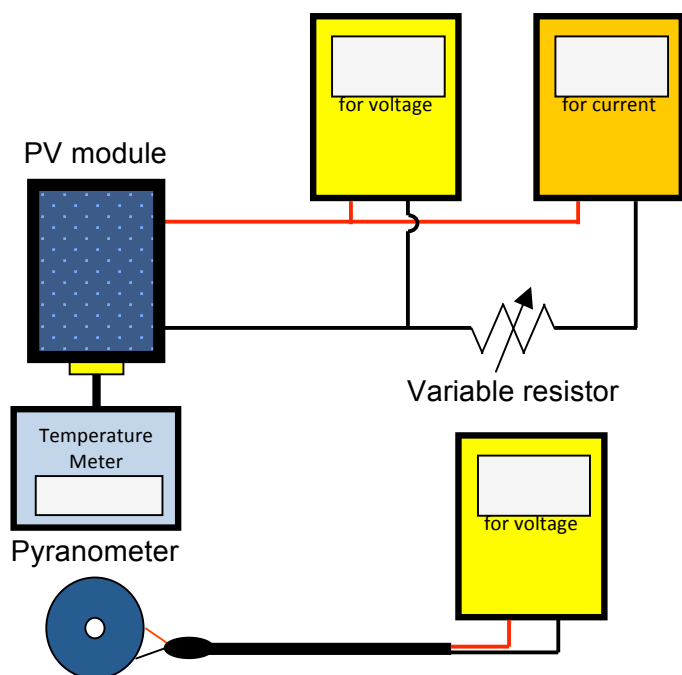

Figure 11: Basic I-V curve measurement setup. The pyranometer must be mounted in the same plane as the PV module (see Figure B1).
The most basic setup (Figure 11) consists of two multimeters: one to measure current and the other for voltage. Also shown are a temperature meter with thermocouple, a silicon photovoltaic pyranometer with multimeter, and a variable resistor, also called a rheostat or potentiometer. The multimeter used to measure current must be rated for a maximum current higher than I_{sc} . The estimated cost of the pyranometer and variable resistor is about \$300 US. Appendix A has step-by-step instructions on how to operate this basic I-V curve setup.
Follow these steps to measure an I-V curve using the basic test setup (Figure 11). For accurate results, take measurements under an absolutely clear sky and close to solar noon with an air mass value less than or equal to 2 (see General Rules for Outdoor I-V Testing on page 9). These conditions minimize the change in solar radiation parameters during testing.
5. Connect the variable resistor and current meter as in Figure 11, but leave one terminal of the variable resistor disconnected to allow measurement of the open-circuit voltage. (You can do this while waiting for the module to reach equilibrium temperature.)
- Connect the variable resistor and current meter as in Figure 11, but leave one terminal of the variable resistor disconnected to allow measurement of the open-circuit voltage.